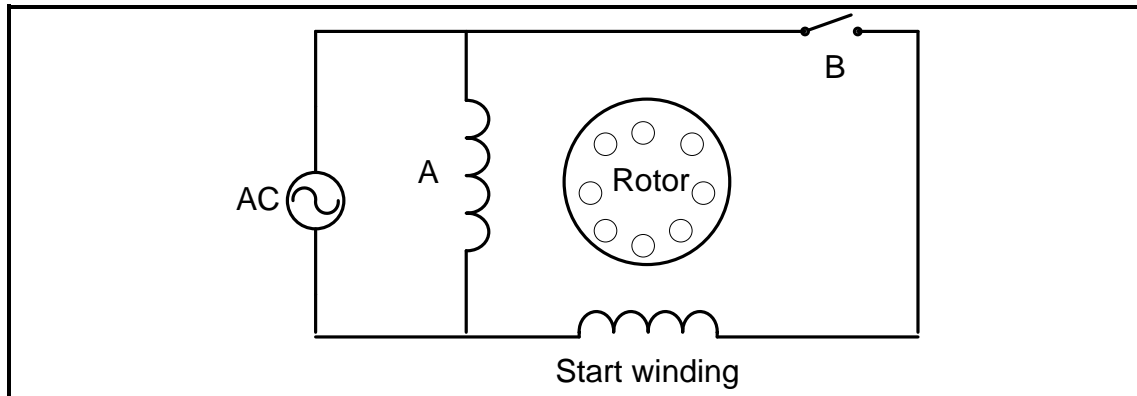

**FIGURE 8.6**
- 8.6 Refer to FIGURE 8.6 and answer the questions that follow.
- 8.6.1 Identify the logic gate shown in FIGURE 8.6. (1)
- 8.6.2 Draw the truth table of the logic function in FIGURE 8.6. (4)
- 8.6.3 Draw the ladder diagram for the logic function in FIGURE 8.6. (3)